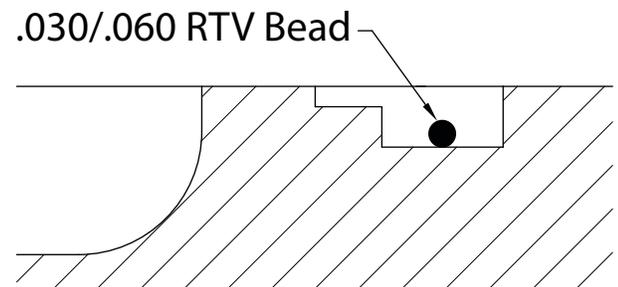

Figure 14
4.6.4.3 The 48WCB2 incorporates a dual groove for both the Loctite Superflex® #596 Sealant and an O-ring. An initial bead of sealant 0.030"-0.060" (0,7 mm - 1,5 mm) in size must be applied to the bottom of the deep groove in order to hold the O-ring in place. See Figure 14.